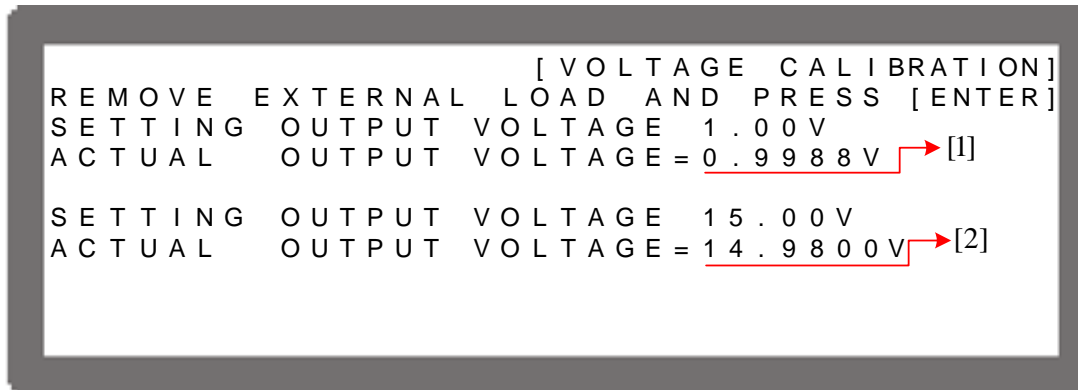

Figure 3-96
- (5) First, do the low voltage range calibration (16V), the instrument will set the output voltage to 1.00V and the cursor is stopped at position [1] as Figure 3-96 shows. Enter the voltage measured by DVM (4 digits after decimal point) and press “” to confirm.
- (6) Press the “” again to do the low voltage range calibration for its second point, the instrument will set the output voltage to 15.00V and the cursor is stopped at position [2] as Figure 3-96 shows. Enter the voltage measured by DVM (4 digits after decimal point) and press “” to confirm.
① NOTICE
2. It is necessary to remove the output load when performing voltage calibration. The LCD panel will show the text as Figure 3-96 and once no load is confirmed for the output, press “**ENTER**” to start calibration.